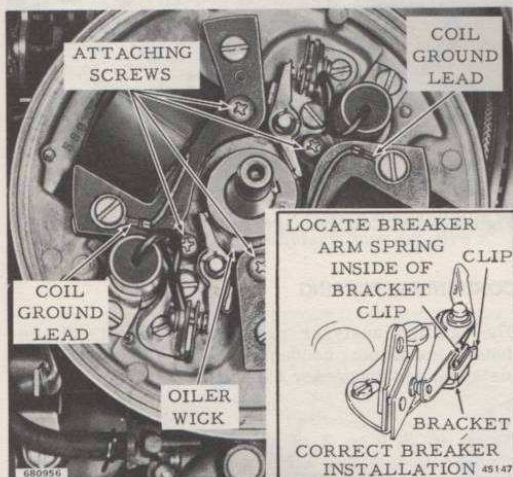
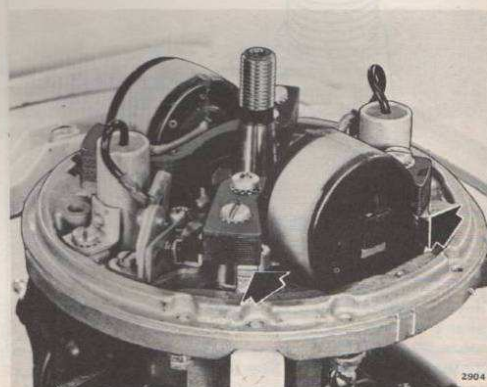
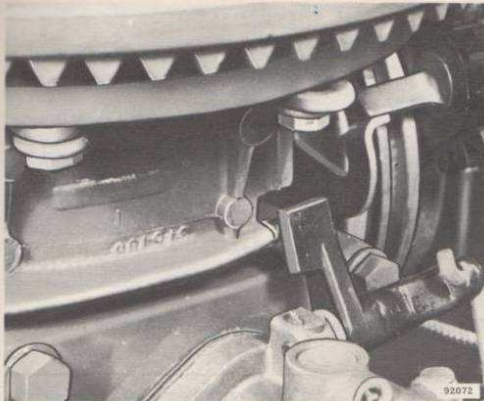

Figure 4-6. Armature Plate Attaching Screws
Figure 4-14. Coil Locating Bosses
Figure 4-18. Throttle Control Cam and Follower
- a. Refer to Figures 4-6 and 4-7 for correct assembly. Correct locating of the coil and lamination assemblies is governed by machined mounting surfaces on the armature plate. Coil lamination heels should be flush with machined surfaces. See Figure 4-14.
- b. Make sure that a new oiler wick is installed under the forward coil. See Figure 4-6.
- d. Place the armature plate in position over the crankshaft, using care to avoid damaging the breaker arms on the cam. Make sure that throttle cam follower is not caught under throttle control cam. See Figure 4-18. Tighten the four Phillips head screws. See Figure 4-6.